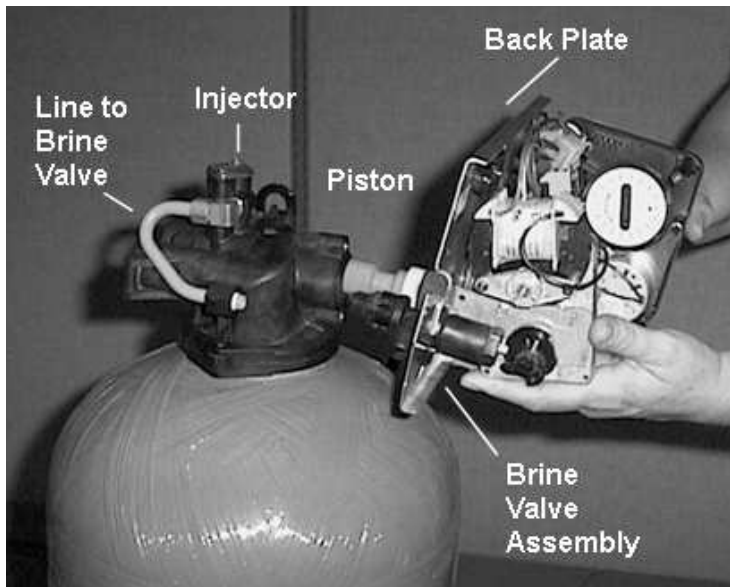

Figure 5
5. Grasp the back plate on both sides and slowly pull end plug and piston assembly out of the valve body (see Figure 5) and lay aside.